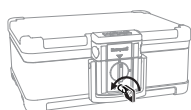

Figure 3.2
2. Turn the key counterclockwise to the left $\frac{1}{4}$ turn (Figure 3.2).